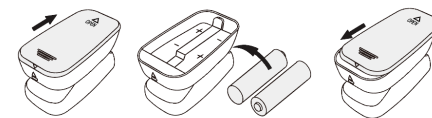

Figure 3. Batteries Installation
Step 1. Refer to Figure 3, and insert the two AAA size batteries properly in the right direction.